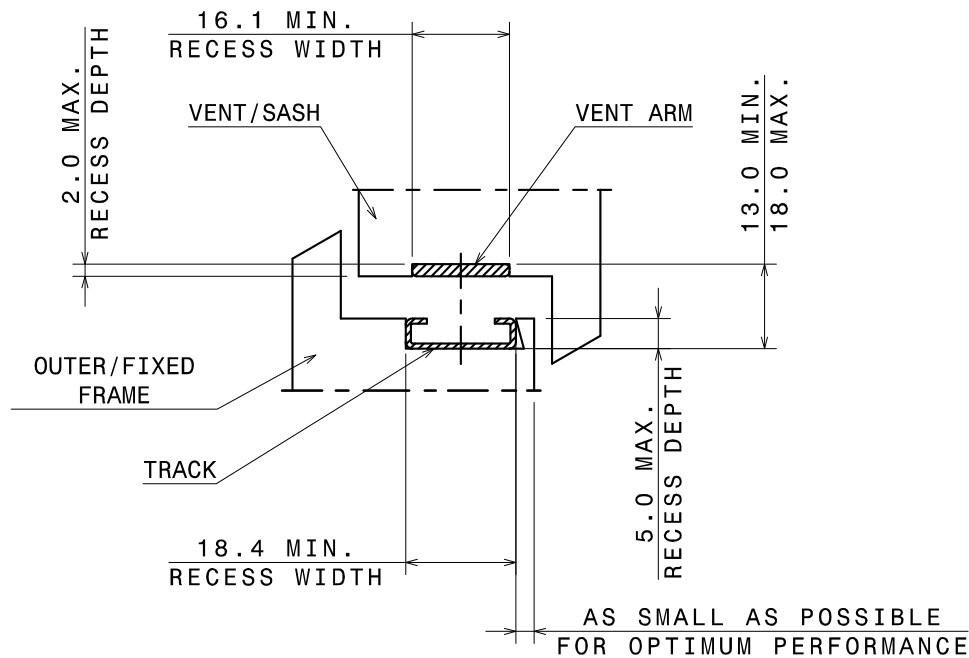

Fig. 1
- 2.1.8 The vent and outer frame location recess or up stand, if any, must be as shown in Fig. 1.
- 2.1.13 No routing of the profile is required unless the profile silhouette does not conform to the clearances requirements (see Figs 1 and 2).
- 2.1.16 No routing of the profile is required unless the profile silhouette does not conform to the clearances requirements (See Figs. 1 and 2).